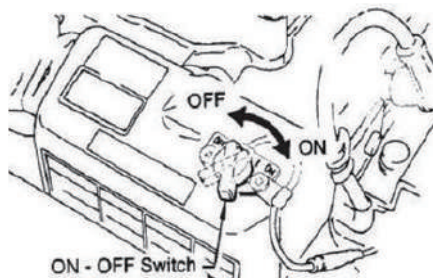
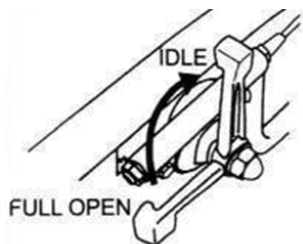

Fig 6
Fig 11
2. Set the engine ON/OFF switch (Fig 6) to the **ON** position (start).
1. Move throttle lever quickly from the FULL OPEN to IDLE position (Fig 11) and run the engine for three minutes at low speed. After the engine cools, turn the engine start/stop switch to the "STOP" position (Figure 6) until engine comes to a complete stop.